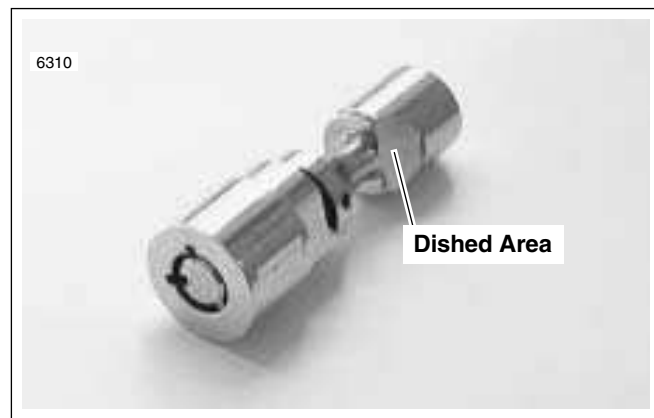

Figure 2-71. Steering Head Lock
- a. See Figure 2-71. Dished area of steering head lock faces front wheel.